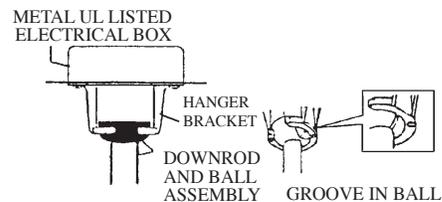

FIG.3
2. Carefully lift the fan and seat the downrod and ball assembly on the hanger bracket. Be sure the groove in the ball is lined up with tab on the hanger bracket. Insert the receiver into the hanger bracket. Do not pinch wires between the ball and downrod assembly and hanger bracket (see FIG 3).